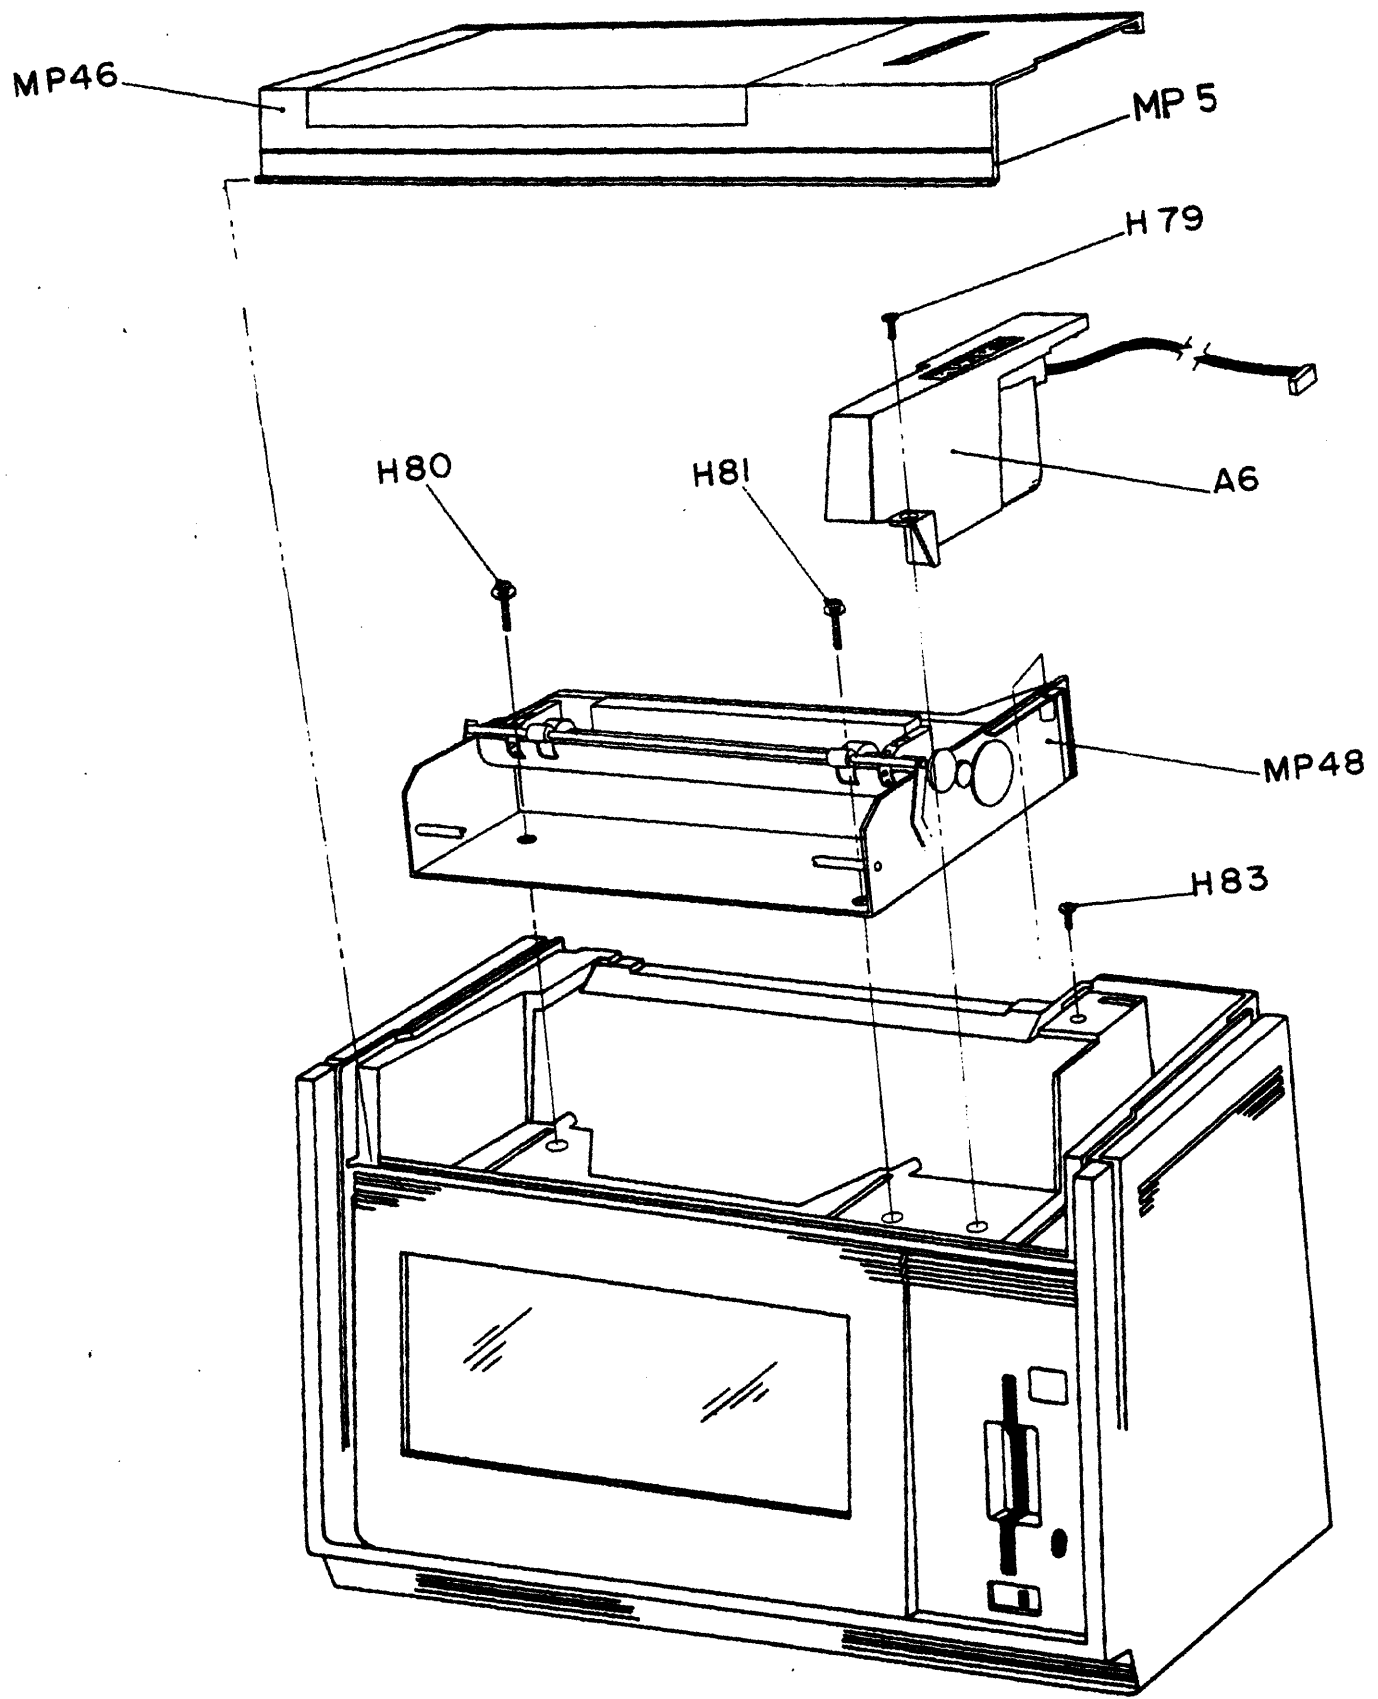

Figure 9-5. Front Printer Exploded View
* The cable tie and cable clamp are not shown in figure 9-5. They are used to restrain the printer mechanism cables (see figure 8-10).